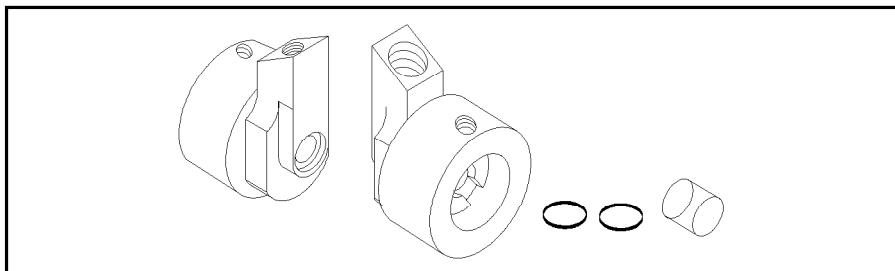

Figure 4-21. Cell Pieces, Cell-Piece Gaskets, and Flow Chamber
8. Take the two complete cell pieces, two cell-piece gaskets and the flow chamber, see Figure 4-21.